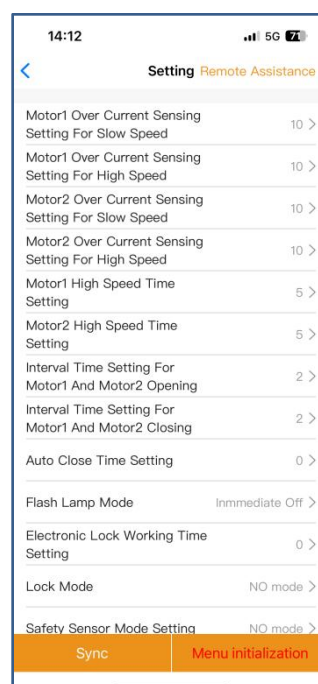

Fig 12
- Step 2. Set the parameters on the APP. (Fig 12)